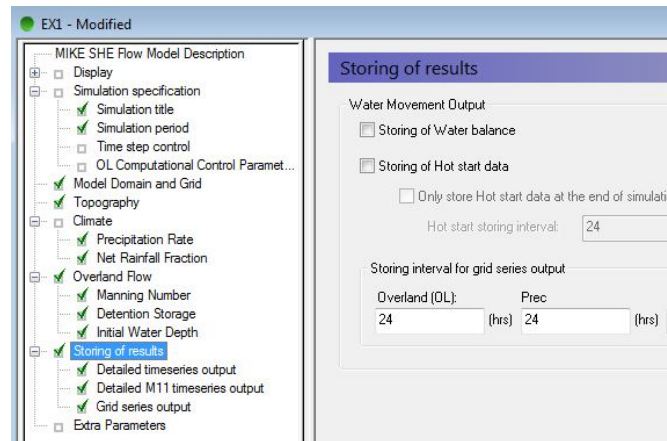

Figure 122: Storing result options (partial screenshot)
- Define storage time-step for 'Overland flow' and “Precipitation” data to 24 hours as in Figure 122.